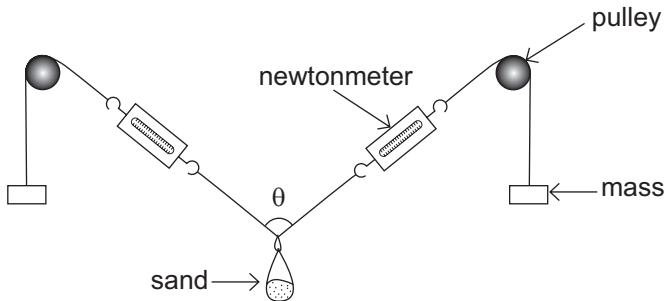

Fig. 2.2
- (i) Measure the angle θ between the strings, as shown in **Fig. 2.2**.